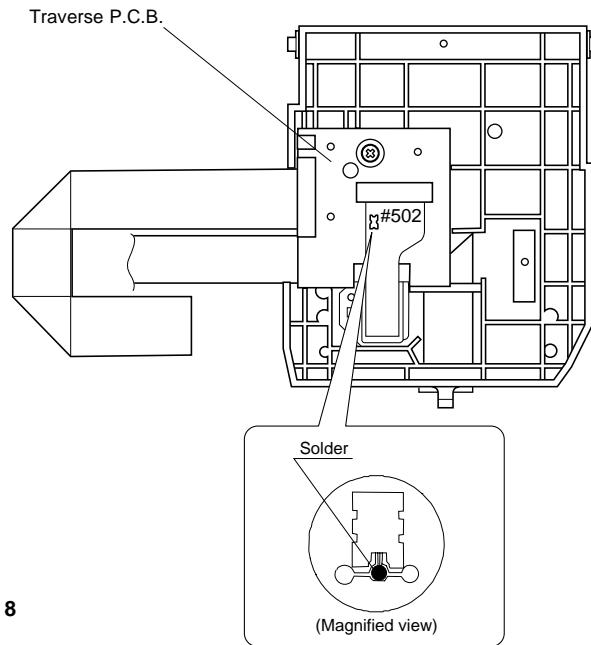

Fig. 8
- a. Remove 3 screws ( 14 ) in Fig. 8.